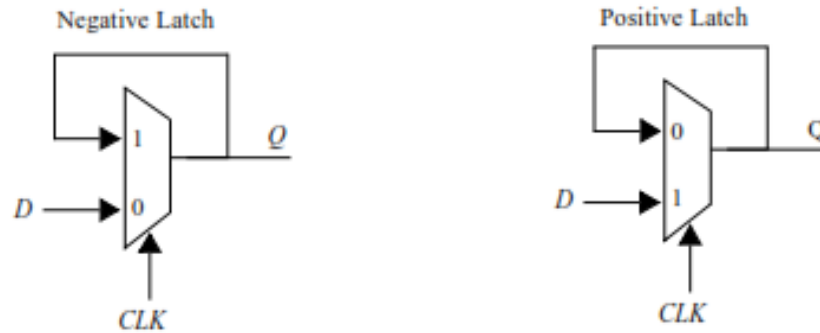

Figure 3.6 Negative and positive latches based on multiplexers.
- Figure 3.6 shows an implementation of static positive and negative latches based on multiplexers.